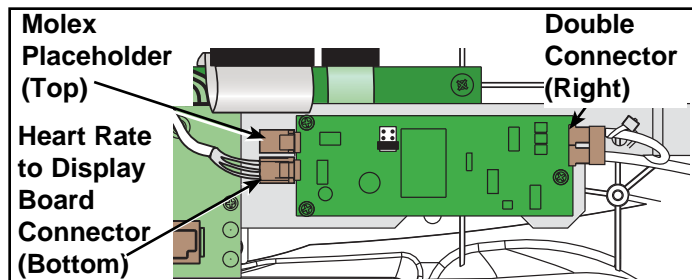

Figure 24
- B. If you're not replacing the cable, disconnect the two cables and one molex placeholder from the heart rate board. (You will re-attach the molex connector in step 4A). See Figure 24.
- A. Locate the side of the heart rate board with the two holes and place the molex placeholder over the top three pins. See Figure 24.
- Connect the double connector into the right side of the heart rate board. See Figure 24.
- A. Confirm that the two cables and one molex placeholder are firmly connected to the heart rate board in their proper places. See Figure 24.